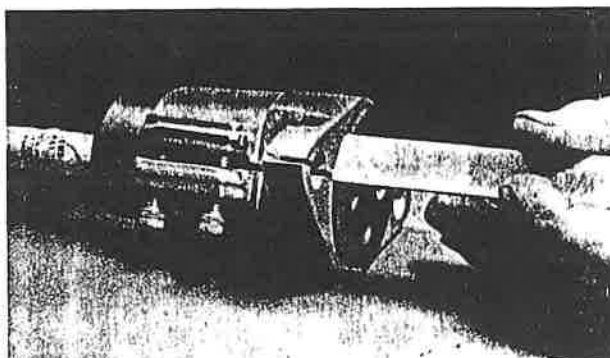

Figure 5 — Checking Gap, Terminal Box Clamp to Terminal Box
8. Refer to Figure 5. Slide the metal terminal box clamp (180) down over the terminal box (182) as far as possible, then check gap from bottom face of terminal box clamp (180) to bottom face of terminal box. This gap should be 1/16" (1.5 mm).
9. Replace the cable terminal box shipping cap (023).